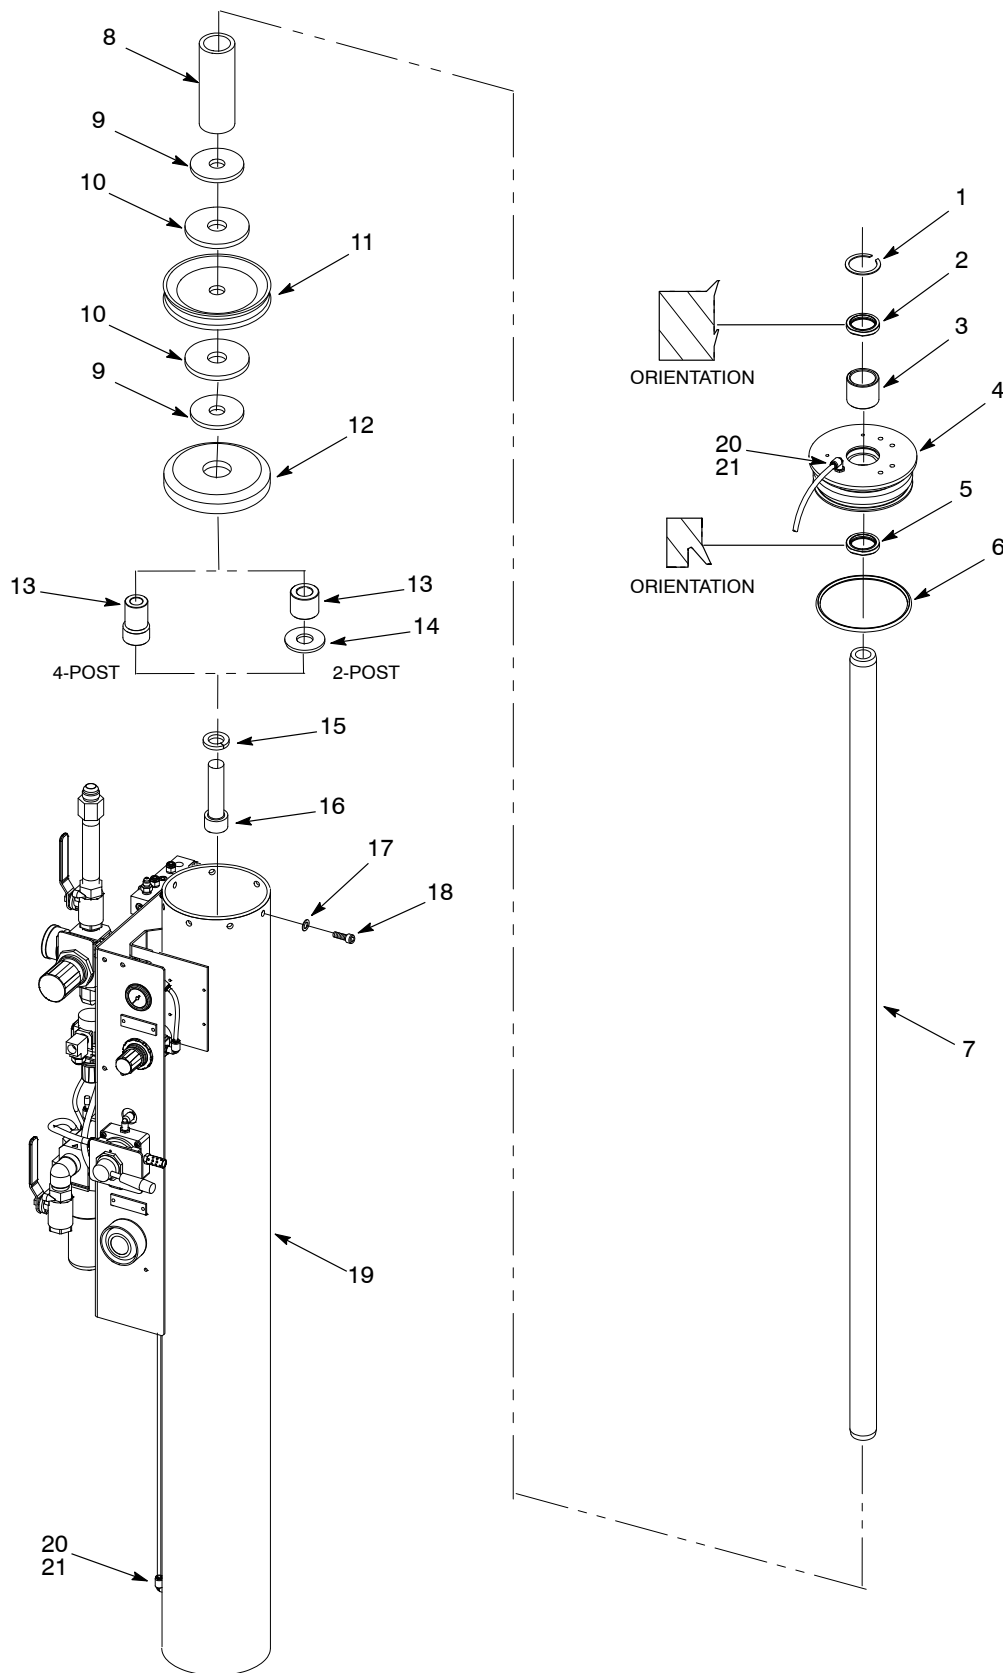

Figure 3 Rebuilding the Large Frame Cylinders
- See Figure 3. Remove the following from each cylinder shaft (7):
- shaft screw (16)
- lock washers (15)
- flat washers (14)
- bottom piston spacer (13)
- piston guide disk (12)
- piston back-up plates (9)
- gaskets (10)
- piston seal (11)
- piston stop (8)
- Remove the cylinder head (4) from each cylinder shaft (7).
- See Figure 3. Clean the inside walls of the air cylinders (19). Immediately apply a coating of O-ring lubricant to prevent corrosion.
- Clean the cylinder heads (4), and cylinder shafts (7).
- Replace the seals (5 and 11), wiper scrapers (2), bearings (3), O-rings (6), and gaskets (10).
- See Figure 3. Lubricate the following new items with petroleum jelly and install them into each cylinder head (4):
- shaft seal (5)
- bearing (3)
- wiper scraper (2)